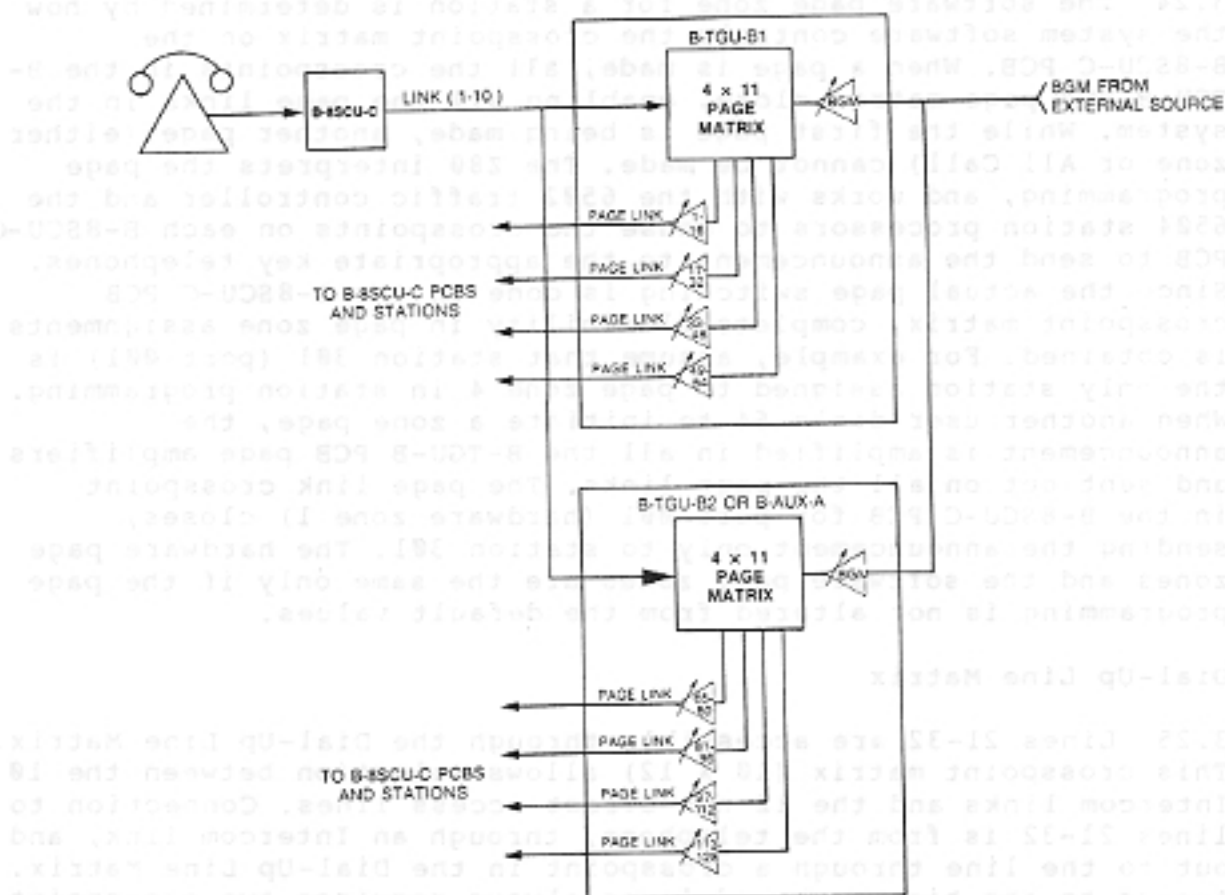

Figure 8-10 PAGING, TCX-128
3.22 The 4 X 11 Page Matrix is used to connect the 10 Intercom links and Background Music to the four page amplifiers. As shown in Figure 8-10, a paging announcement comes from a telephone into the B-TGU-B on an Intercom link. The matrix in the B-TGU-B connects the link to all of the page amplifiers. Each amplifier sends the paging signal to 16 stations (two B-8SCU-C PCBs) on the dedicated page link. The first B-TGU-B PCB in the system provides four amplifiers to drive the Page links for the KSU. The second B-TGU-B (or B-AUX-A) PCB provides four amplifiers to drive the Page links for the expansion cabinet.